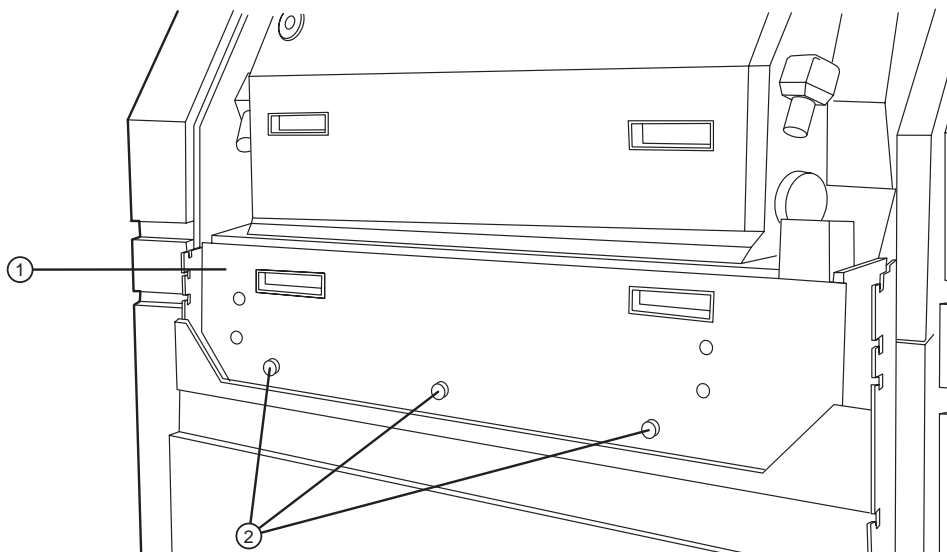

Figure 1-15 Removing the take-up light shield.
- ①—Media transport retainer bracket (one of two).
- ②—Shipping screw (one of two), between two lockdown screws.
9. Locate the take-up light shield in the center of the unit. Refer to Figure 1-15. Remove the shield by unscrewing the three (3) locking knobs and pulling the shield straight out.